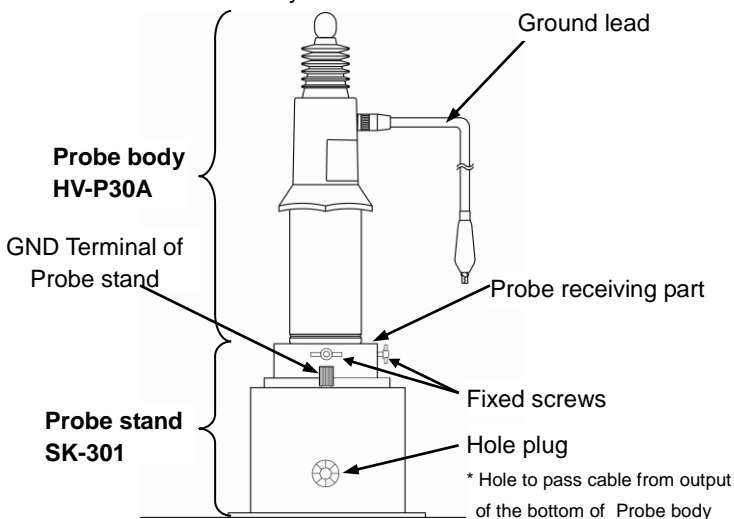

Figure 4(a) Probe body HV-P30A and Probe stand SK-301
* Refer to following 1) to 5) and Figure 4(a), (b) and (c).